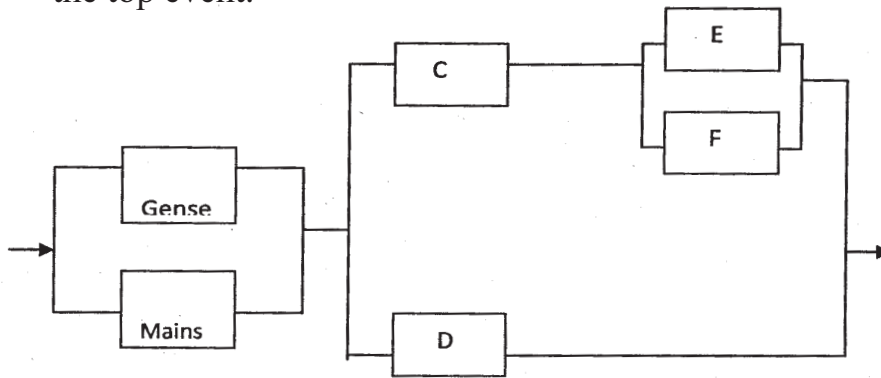

Fig.1
- b) Construct a fault tree from Fig.1 such that the top event is a system failure and component failures are basic events. If $\Pr\{A\} = \Pr\{B\}=0.9$, $\Pr\{C\}=\Pr\{D\}=0.8$ and $\Pr\{E\}=\Pr\{F\}=0.75$, compute the probability of the top event. [10]